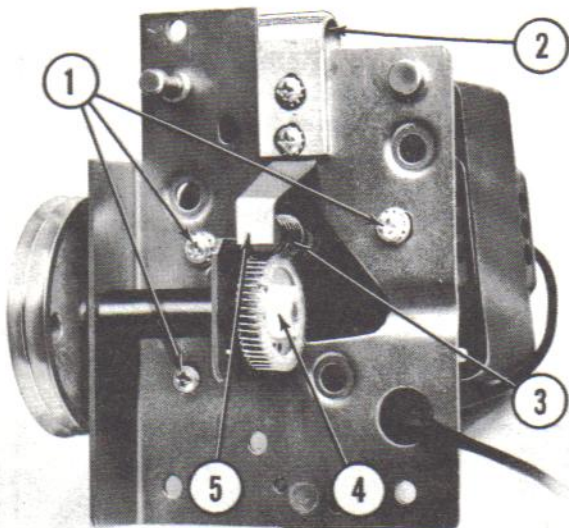
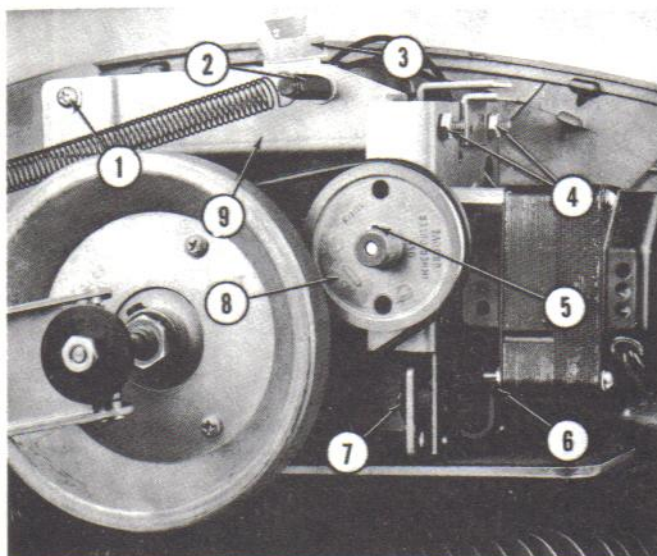

Fig. 65. TURNTABLE GEAR DRIVE ADJUSTMENT
Fig. 66. TURNTABLE BELT AND DRIVE PULLEY ADJUSTMENT
(3) The turntable motor drive gears (Fig. 65, Items 3 & 4) are adjustable for alignment and mesh. The motor and mounting plate assembly may be removed from the top support casting by disconnecting the line plug (Fig. 66, Item 3), shown disconnected. Remove the two lock nuts (Item 4) and the retaining ring (Item 7). With the motor and mounting plate removed as shown in Figure 65, the support bracket (Item 2) should be loosened and the three motor mounting screws (Item 1) loosened. The worm gear (Item 3) should be centered over the nylon pinion gear (Item 4) and meshed to provide free running with minimum backlash. Tighten the mounting screws (Item 1).
(b) Reset the support bracket (Item 2) to zero clearance with the motor housing as shown in Figure 66, Item 6, and tighten the adjusting screws.
(4) The turntable drive pulley (Fig. 66, Item 8) is mounted on the driver gear shaft by the set screw (Item 5) with .006" end play.
(5) The turntable drive belt tension is adjustable by loosening the stud (Fig. 66, Item 2) and the screw (Item 1). The upper motor mounting bracket (Item 9) may be shifted on its elongated mounting holes.